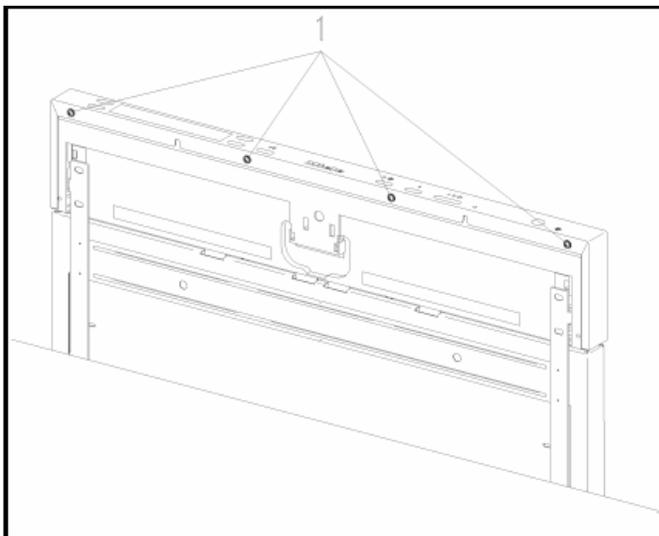

Figure 5-8: Door Fascia Panel
1. Remove the retaining screws, Fig. 5-8, Item 1.